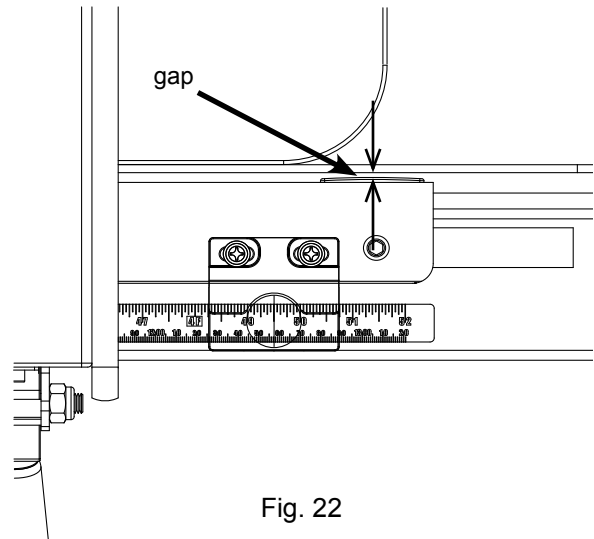

Fig. 22
22. Next, move the fence to the right end of the tube, repeat the above process to position the tube, and tighten the right-most screw (see Fig. 22). Once both ends of the tube are adjusted correctly, tighten the remaining M8 x 16 hex head bolts to mount the front tube to the front rail. The fence should now slide smoothly along the front tube without binding and without excessive play.